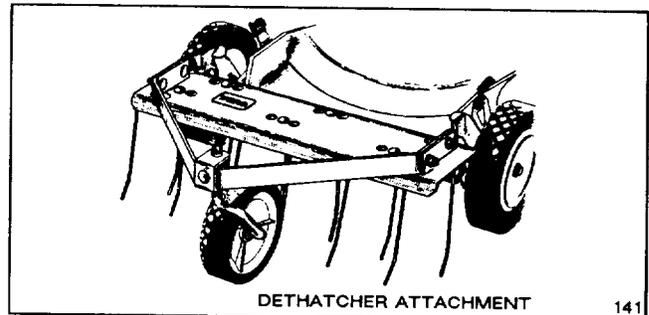

Figure 27
3. **Dethatcher Kit, Model 59131 (self-propelled model only)**—Installs in minutes. Front mounted for easy maneuverability. As spring tines scratch and vibrate through the grass, thatch is loosened and cut and recut by the mower (Fig. 27).